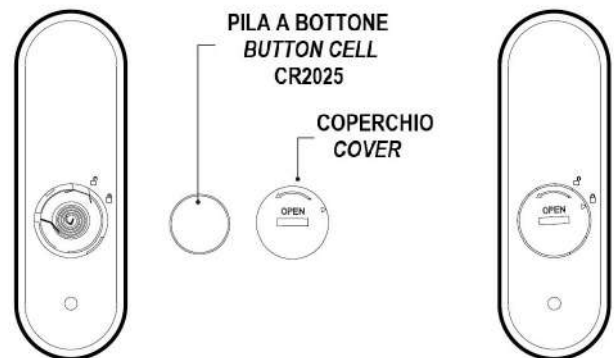

Fig. 22
L'unità è dotata di un telecomando con pulsantiera (Fig. 22), con le seguenti funzioni:
The unit is equipped with a remote control with push-button panel (Fig. 22), with the following functions:
• To remove the battery, unscrew the battery cover counterclockwise as shown in figure 22, until the triangular arrow on the cover indicates the unlock sequence, i.e. it is unlocked, and the battery can be taken out.
The fan receives pulses from the remote control described in Figure 22, activating the LEDs according to functionality described in Figure 23.